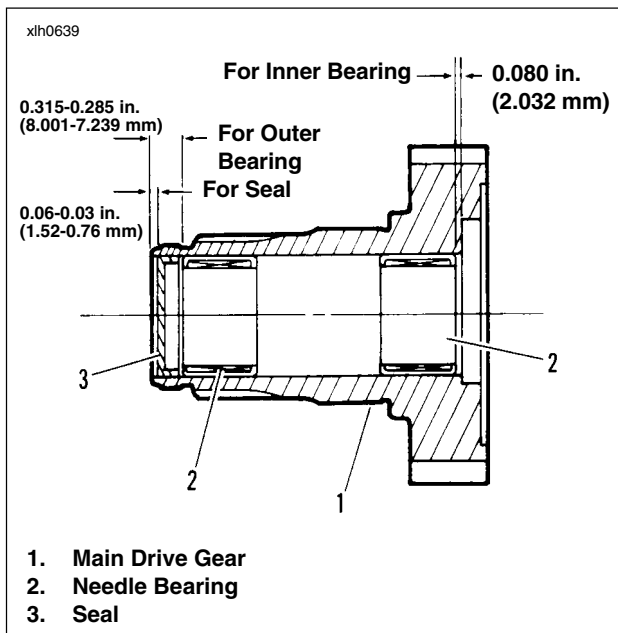
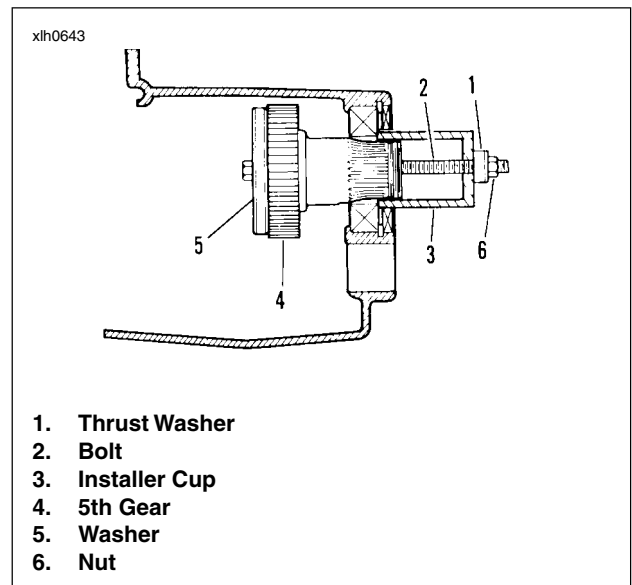

Figure 6-51. Main Drive Gear Assembly
Figure 6-55. Main Drive Gear Installation
2. See Figure 6-51. From inside case tap out seal (3) at end of mainshaft 5th gear (1). Discard seal (3).
2. See Figure 6-55. Use MAIN DRIVE GEAR REMOVER AND INSTALLER TOOL for assembly.
- a. Take bolt (2) and place washer (5) followed by main drive gear (4) over end of bolt.
- c. Insert threaded end of bolt (2) through installer cup (3) and thrust washer (1).
- d. Thread nut (6) onto end of bolt (2). Tighten nut (6) until shoulder on gear (4) bottoms against inner race of bearing.
3. See Figure 6-51. Tap in **new** seal (3) at threaded end of 5th gear.